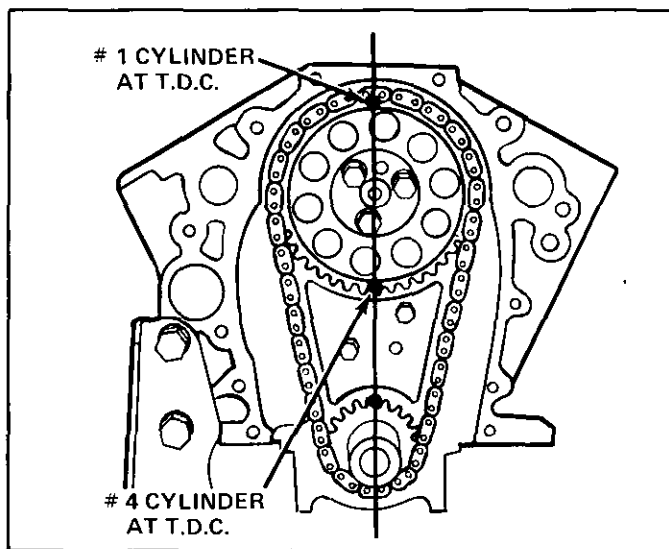

Figure 20 Camshaft Timing
3. Hold the sprocket with the chain hanging down and align the marks on the camshaft and crankshaft sprockets. (Figure 20).